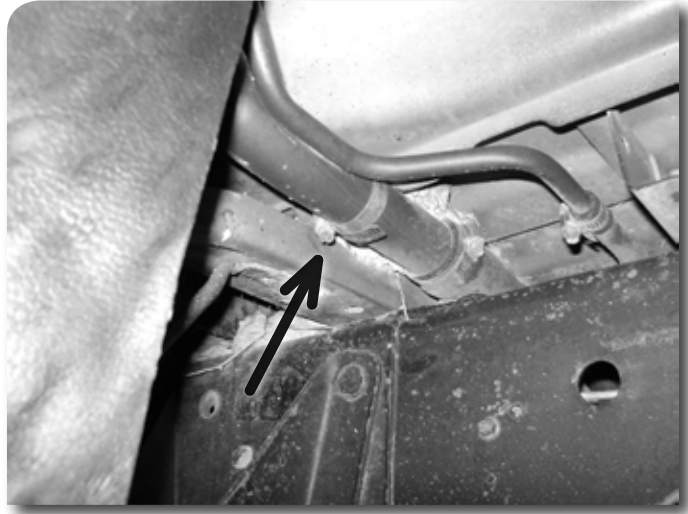

Figure 18
35. Remove the clamp that holds the fuel filler tube to the bod . **Figure 18** The filler tube will clear everything during the lifting operation and will be removed and extended after the vehicle is lifted.